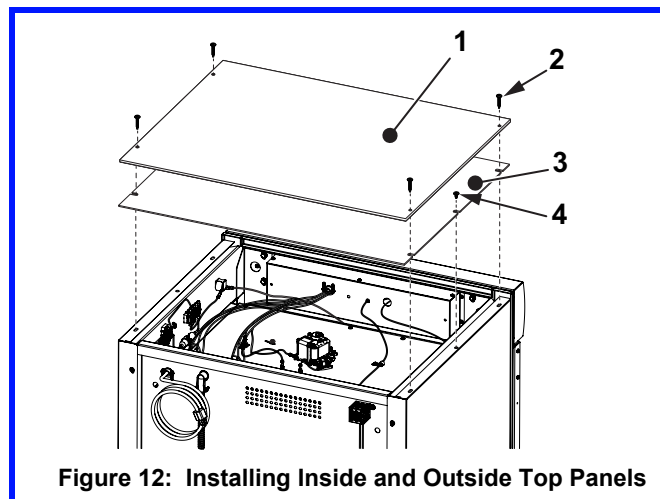

Figure 12: Installing Inside and Outside Top Panels
1. Install the Inside Top Panel using two 8 X 1/2" inch screws to the cabinet. See Figure 12, Item 4).
2. Use four 8 X 1-5/8" self-tapping screws to secure to the Outside Top Panel to the cabinet. See Figure 12, Item 2.